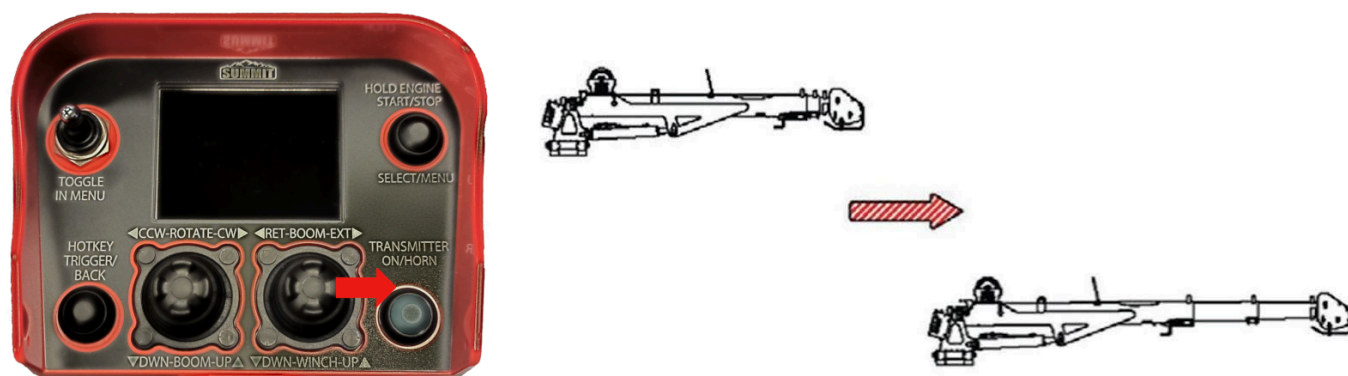

Figure 2-52.
5. Press the right joystick to the right to extend the boom (see Figure 2-52).